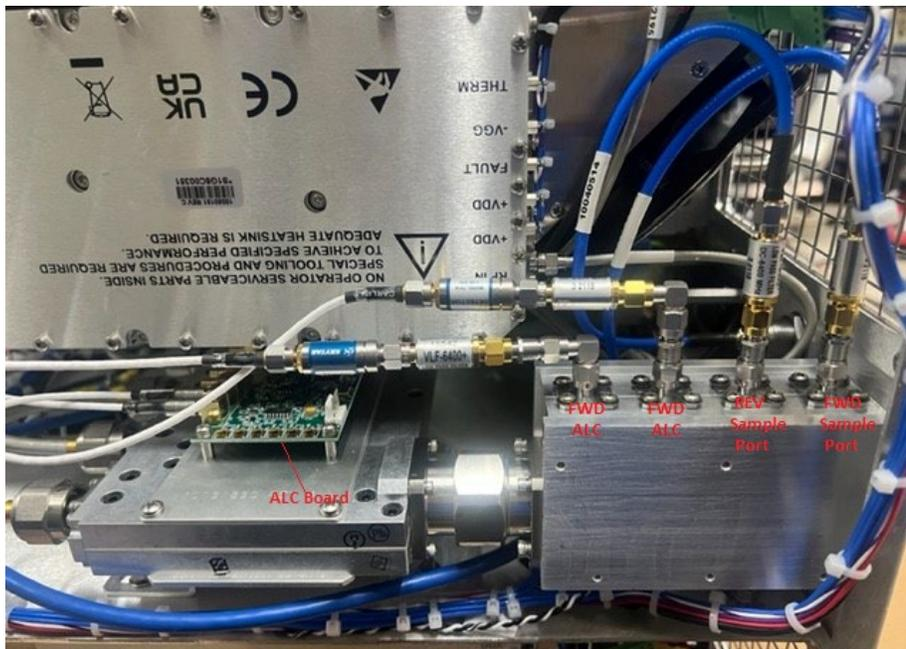

Figure 2
3. Take careful note of the connections between the rear panel sample ports, directional coupler and ALC board (Figure 2). These connections must be reconnected in their exact location for proper amplifier functionality.